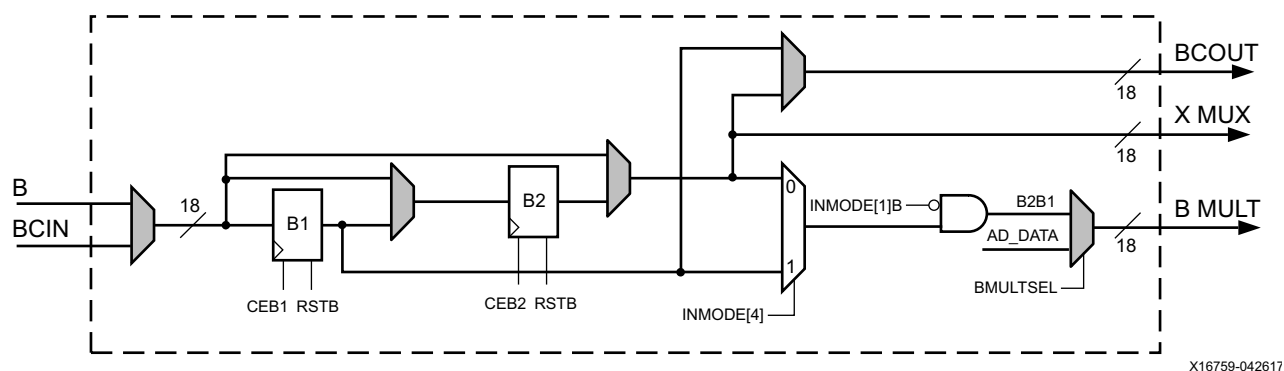

Figure 2-6: Dual B Register Logic
1. INMODE[1]A and INMODE[1]B are internal signals defined by the user settings of PREADDINSEL and INMODE[1]. If PREADDINSEL=A, INMODE[1]A (see Figure 2-5, page 24) is INMODE[1] and INMODE[1]B (see Figure 2-6, page 25) is 0. If PREADDINSEL=B, INMODE[1]B is INMODE[1] and INMODE[1]A is 0.